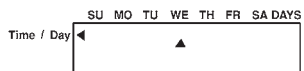

fig.14
2. Using the **↓↑** buttons to the current day (fig. 14).